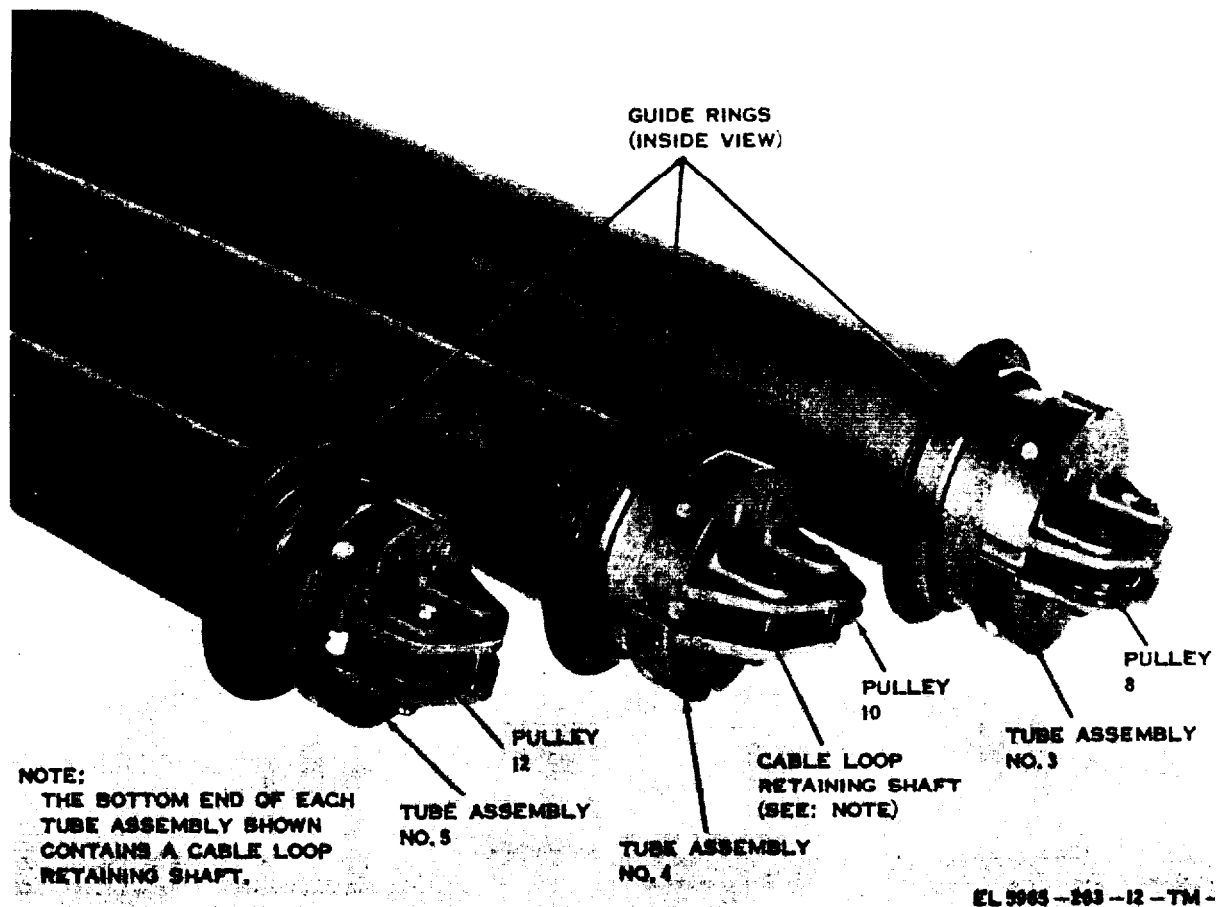

Figure 7-2. Tube assemblies Nos. 3, 4, and 5, bottom view.
(3) Remove the four screws from the guide ring (figs. 7-2 and 7-3) on the top of tube assembly No. 5.
(5) Remove the four screws from the guide ring (fig. 7-3) on the top of each of the other tube assemblies (Nos. 4, 3, 2, and 1). As each guide plate is removed, separate the smaller diameter tube from its larger diameter counterpart. When these tubes are disassembled, cables 5, 4, and 3 should be free of the tubes, and pulleys 12, 10 and 8 (fig. 7-2) should be visible and ready for access or replacement, if required.
(1) To remove the ring assembly (figs. 7-2 and 7-3) inside of tube assembly No. 1, loosen the four ring fastening screws around the outside of the bottom end of tube assembly No. 1. Invert the tube, and gently shake it until the ring assembly falls out.